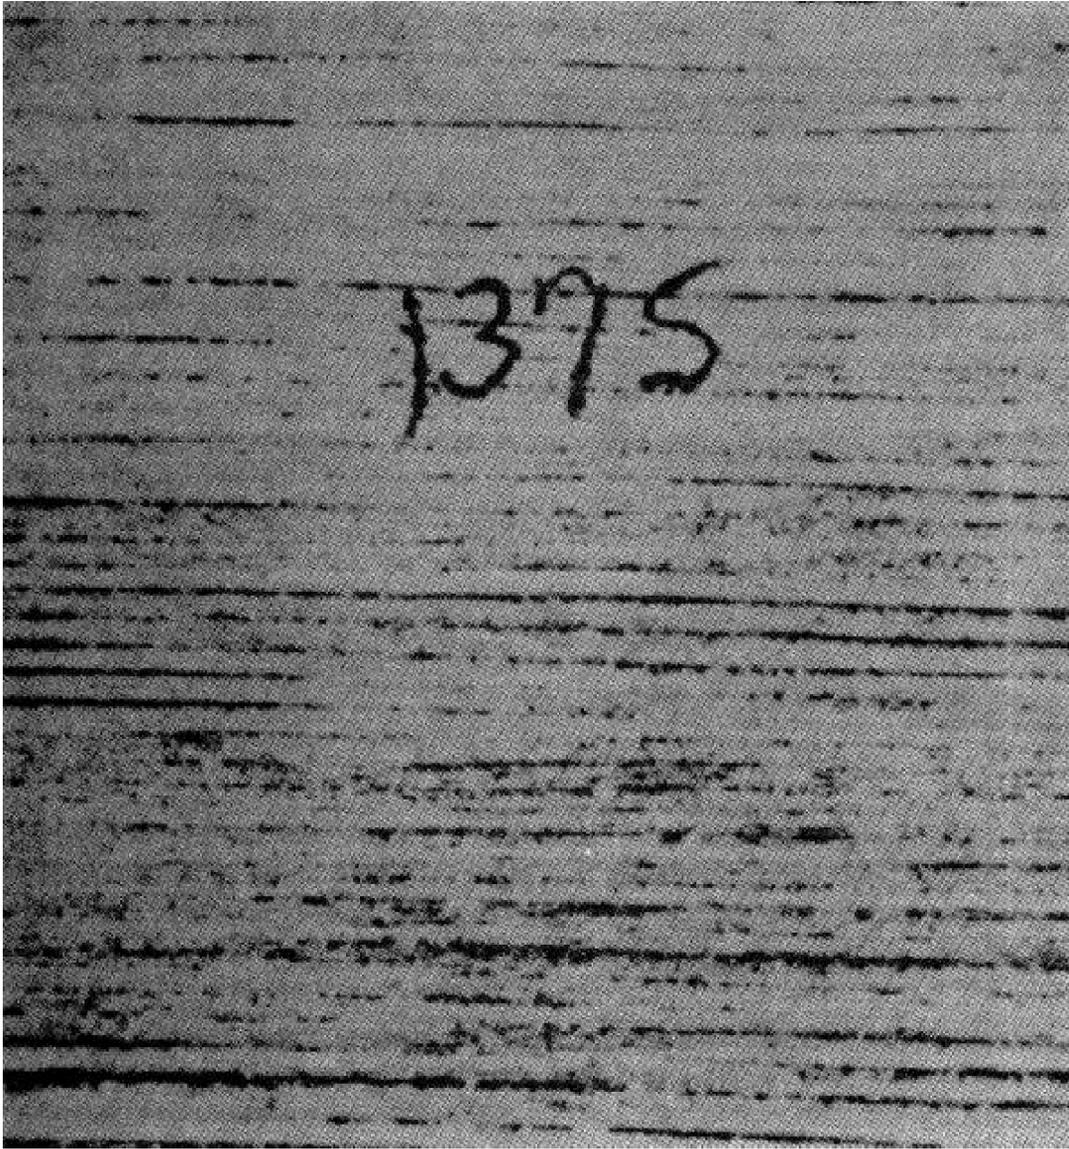

FIGURE 5-9
a. Erosion: As chalking continues, the entire coating wears away or erodes and becomes thinner. Eventually, it becomes too thin to hide the substrate. Then patches of substrate are laid bare. For example, the grain of wood substrates begins to show through (See Figures 5-9 and 5-13.)